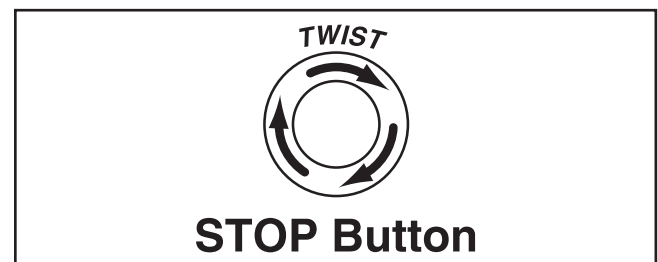

Figure 20. Resetting the switch.
4. Twist Emergency Stop button clockwise until it springs out (see **Figure 20**). This resets the switch so the machine can start.